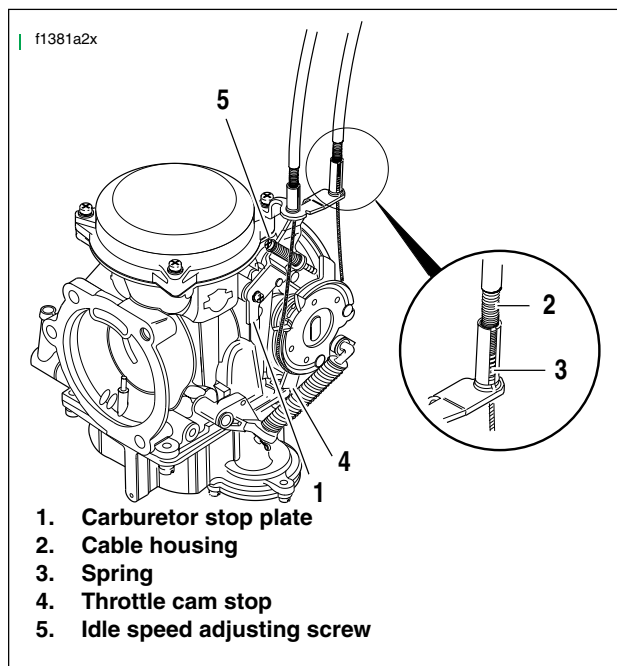

Figure 2-23. Carburetor Adjustments
See Figure 2-23. Set engine slow idle speed of 950 RPM with engine running at normal operating temperature and with enrichment control knob pushed in fully. Turn carburetor idle speed adjusting screw (5) clockwise to increase speed, or counterclockwise to decrease speed.